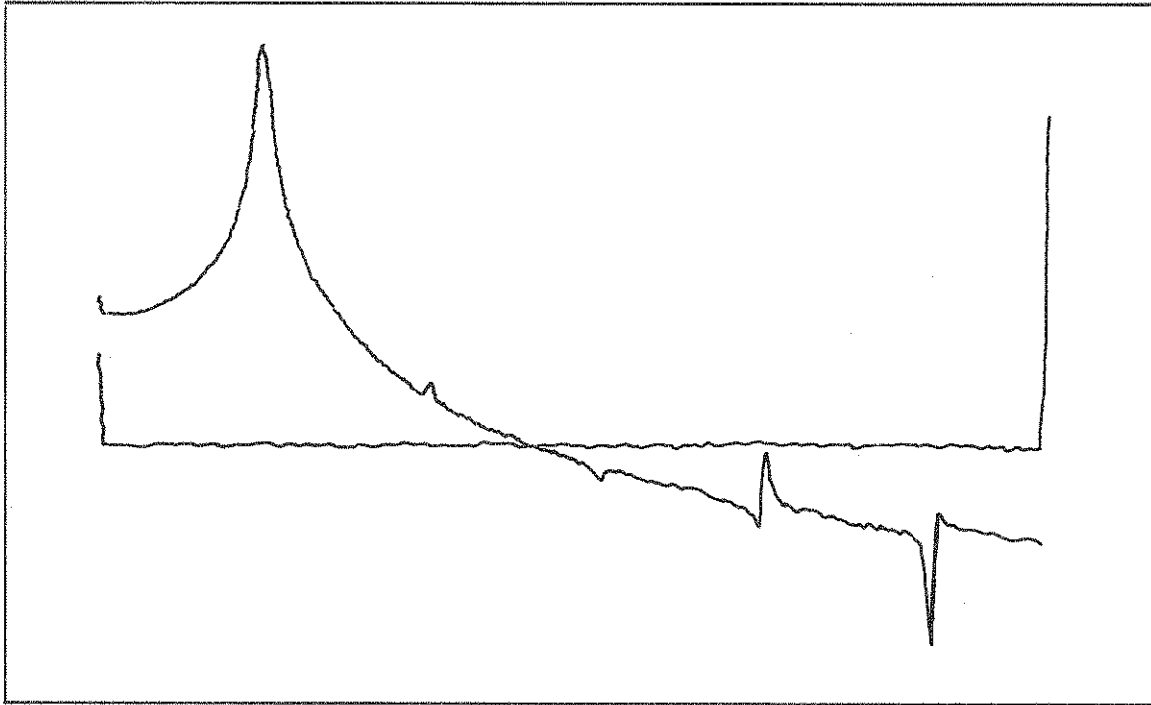

Figure 3-24. A Two Trace Plot.
- d. When the desired spectrum is present on the display and you are ready to plot, press the PLOT button. The 3582A will automatically control the pen lift line throughout the entire plot and return the recorder pen to its initial position when the plot is finished or terminated. If desired, choose another trace and plot again (see Figure 3-24).